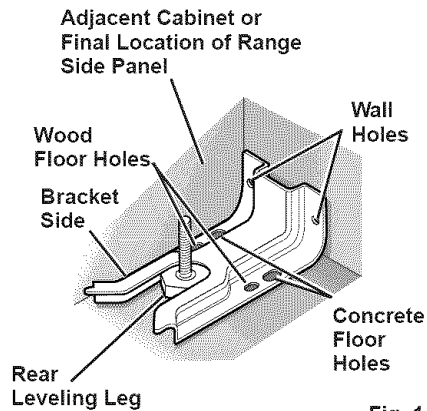

Fig. 1
- B. Use the bracket as a template and mark 2 hole positions on the wall and 2 hole positions on the floor. Use either the wood or concrete floor set of positions, depending on your floor type. See **Fig. 1**.
- B. Check if the **ANTI-TIP** bracket is installed and engaged properly. Remove the kick panel or storage drawer and inspect the **REAR LEVELING LEG**. Make sure it fits securely into the slot. See **Fig. 1**.